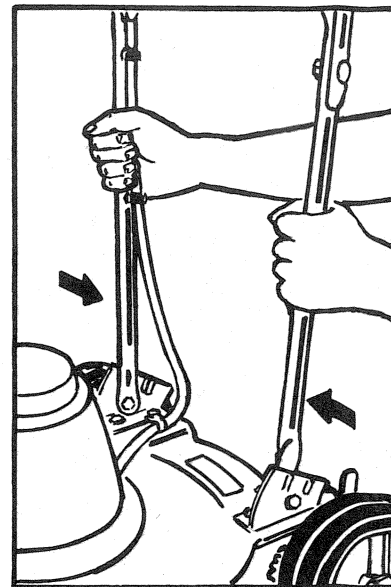

FIGURE 19
1. Squeeze the lower handle legs so that they clear the mounting brackets on the mower deck (Figure 19).